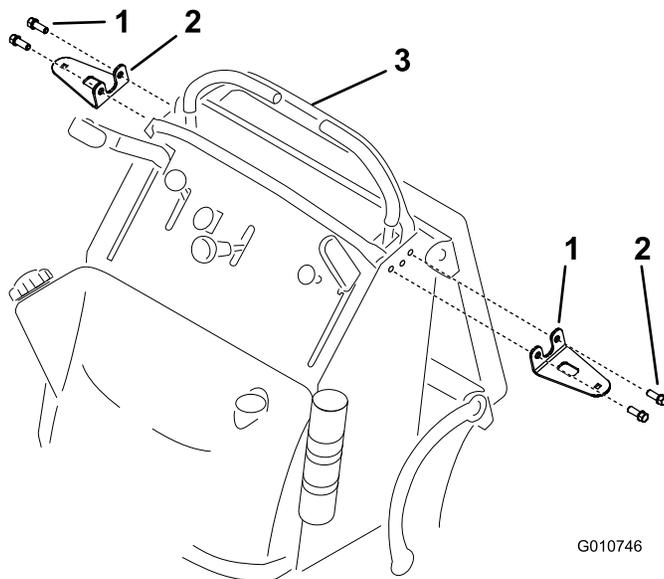

Figure 1
1. Stop the engine, set the parking brake, and remove the key from the ignition switch (Figure 1).